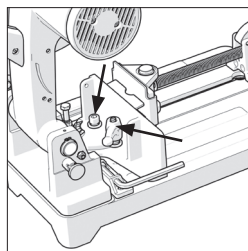

Fig. 8
- Loosen the M10 socket headed screw and the lever handled locking screw. (**Fig. 8**)